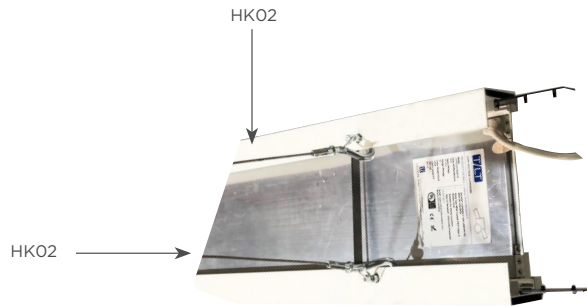

Figure 4
- 7 Install one HK02 cable to the pre-drilled holes on top of section A as shown in figure 4.